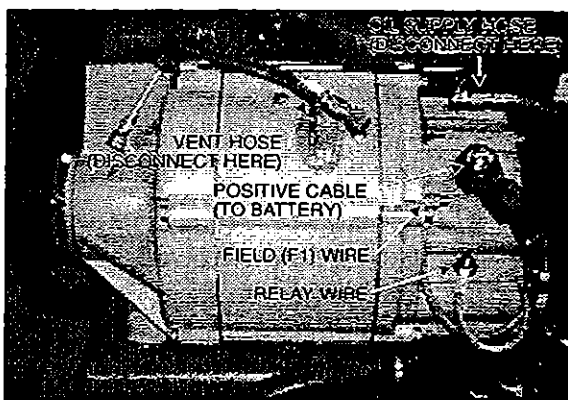
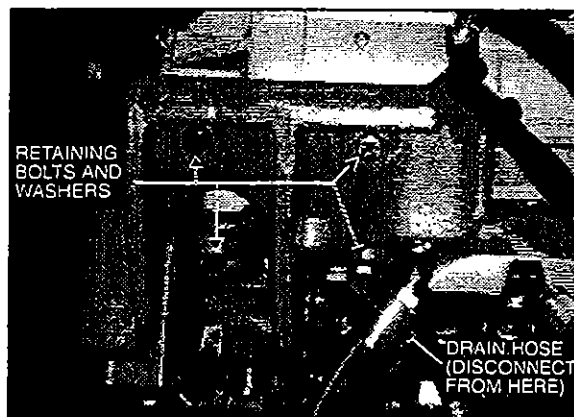

Figure 27
Figure 28
4. Scratch off protective sealer from electrical connections (relay, field and positive terminals). Refer to figure 27.
5. Disconnect wire #25 from the relay terminal, wire #107 from the field "F1" terminal and disconnect battery cable from the positive "+" terminal on the diode end cover. Tag wires removed to ease identification at time of installation. Refer to figure 27.
6. Disconnect oil supply line and vent hose from top of alternator (refer to fig. 27) and tape lines to prevent entry of foreign matter. Disconnect oil drain hose from bottom of alternator (refer to fig. 28) and tape line to prevent entry of foreign matter.
7. Remove the four bolts and lock washer retaining alternator (refer to fig. 28).